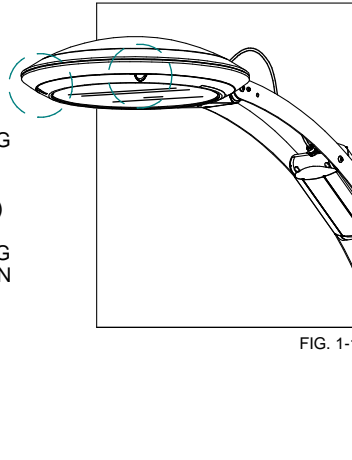
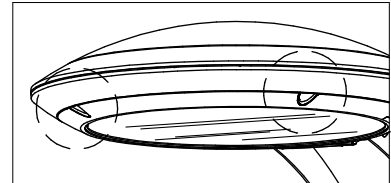

FIG. 1-1
FIG. 1-1A
1. OPEN LOWER HALF OF THE HOUSING BY INSERTING FINGERS INTO SLOTS AND PULLING BOTH LATCHES BACK SIMULTANEOUSLY. (FIG. 1-1)/(FIG. 1-1A)